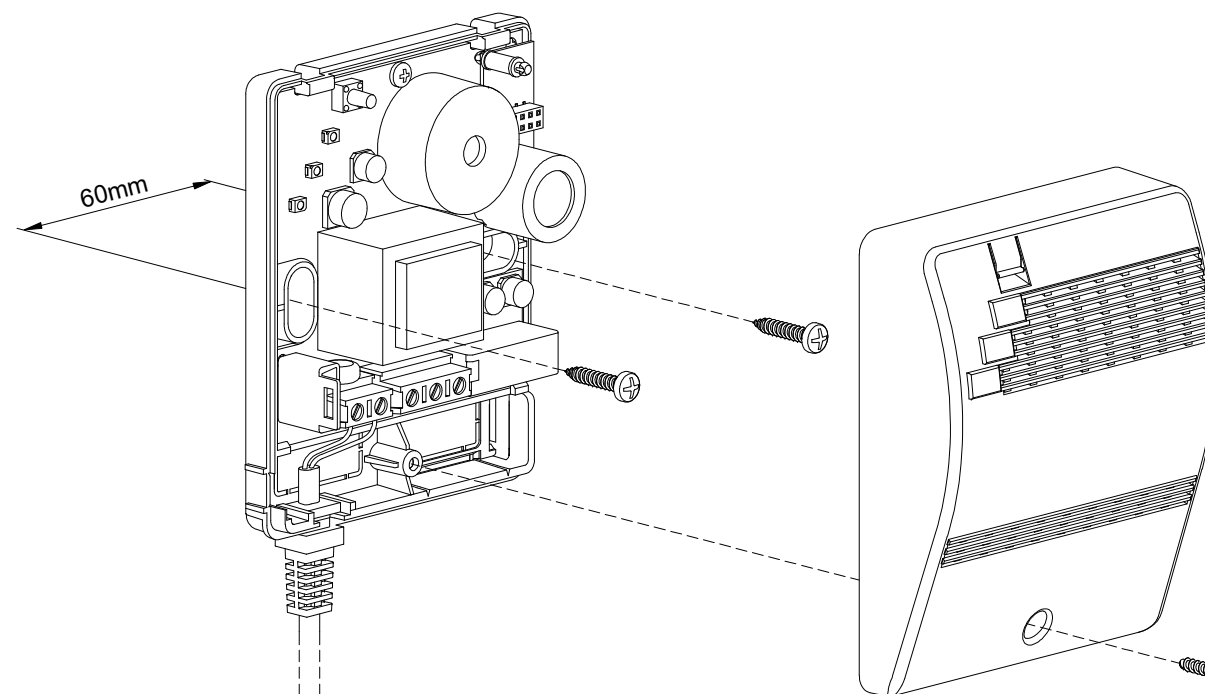
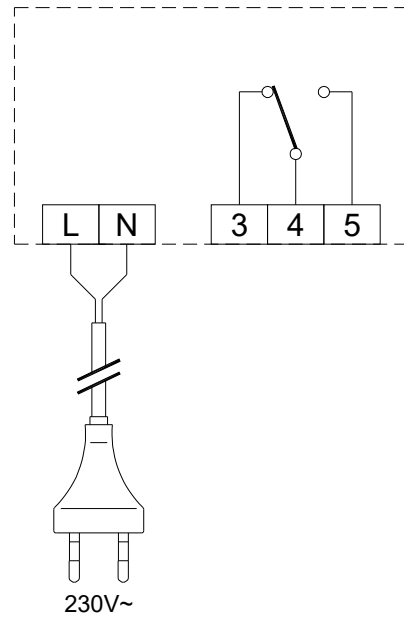

Fig. 2: Installation example.
Fig. 4: Wiring diagram of a detector without solenoid valve.
3. Remove the detector's panel as shown in Fig. 2.
This device is intended for wall mount only, with relevant electrical wiring made through the fixed wiring, not exposed to people and connected to the fixed electrical wiring. The device safety and operational features are only granted when the electrical wiring is made through the proper opening for cables located in the plastic plate. To access to the internal terminals, remove the front panel by loosening the screw (Fig. 2). Make the electrical wiring following the suggested wiring diagrams in Fig. 4, 5 or 6. Please note that the intervention delay is strictly dependant both on a correct positioning of the detector in the room and to the type of gas to be detected. For "light" gases like CO it is advised to install the device in an high position (about 180 cm from the floor). Please avoid to install this gas detector in any position in which its operational features could be compromised, such as the following: